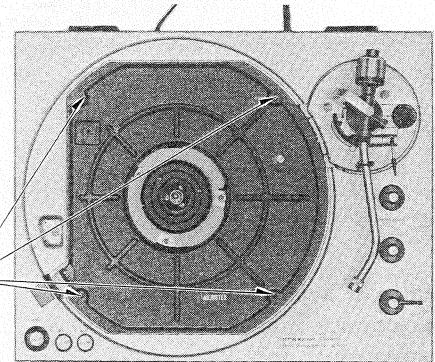

Fig. 3
9. Remove the 4 screws from the panel cover (Fig. 3)